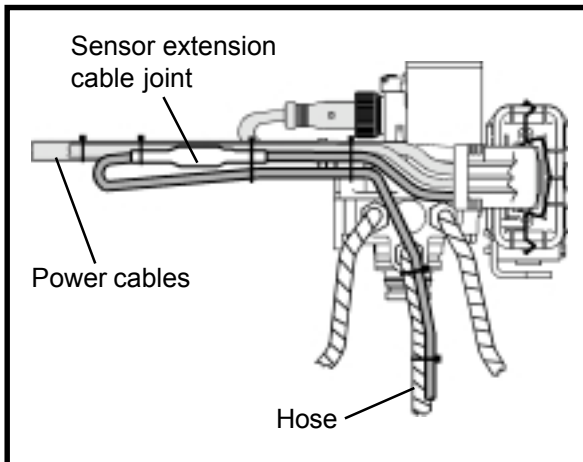

Fig 3.4 POSITION OF SENSOR JOINT
8. Secure the joint to a rigid area. (see Fig 3.4)